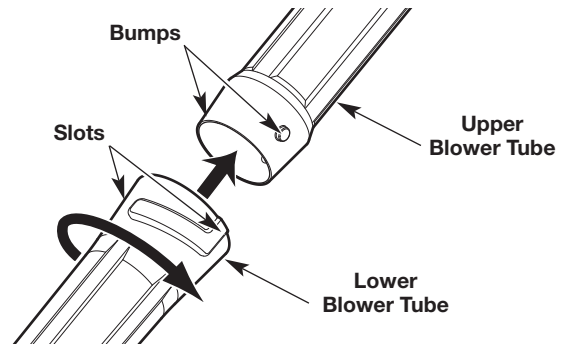

Fig. 2
2. Align the slots on the lower blower tube with the bumps on the lower end of the upper blower tube (Fig. 2).
3. Install the lower blower tube onto the upper blower tube (Fig. 2).
4. While holding the upper blower tube, twist the lower blower tube clockwise until it locks into place (Fig. 2).